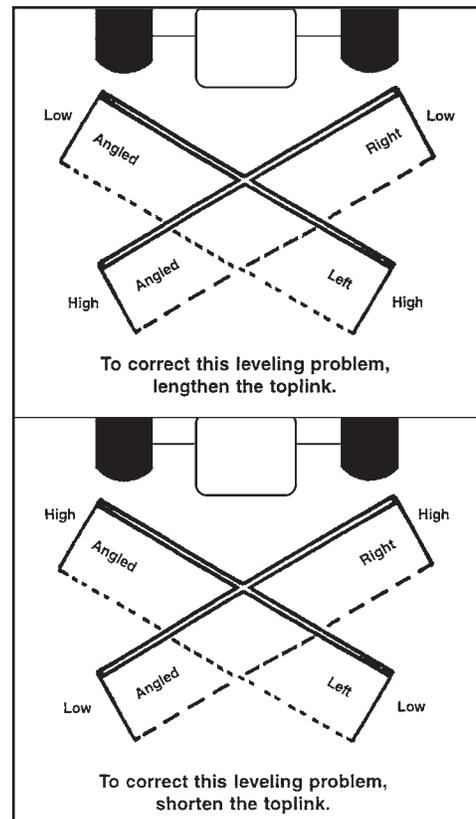

Figure 18
- If measurements are not equal, level the mounting assembly with the toplink. Follow instructions shown in Figure 18. Then, go back to the beginning of step 5; repeat until the sweep is level.